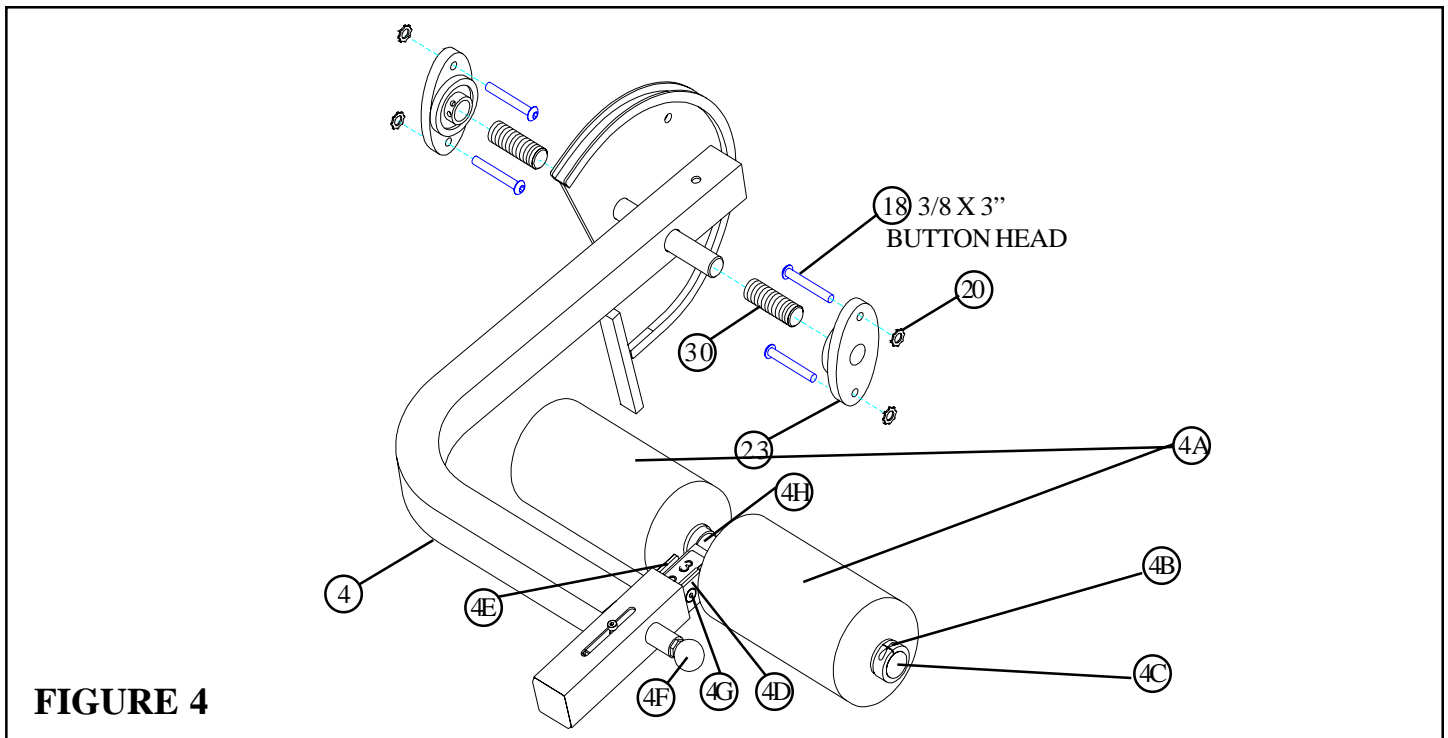

FIGURE 4
- Slide two 2" ACCORDION SLEEVES (30) and two PILLOW BLOCKS (23) over the shaft of the PIVOT ARM (4) as shown in FIGURE 4.
- Assemble four 3/8 X 3" BUTTON HEAD BOLTS (18) and four STARLOCK WASHERS (20) to the PILLOW BLOCKS (23) as shown in FIGURE 4.